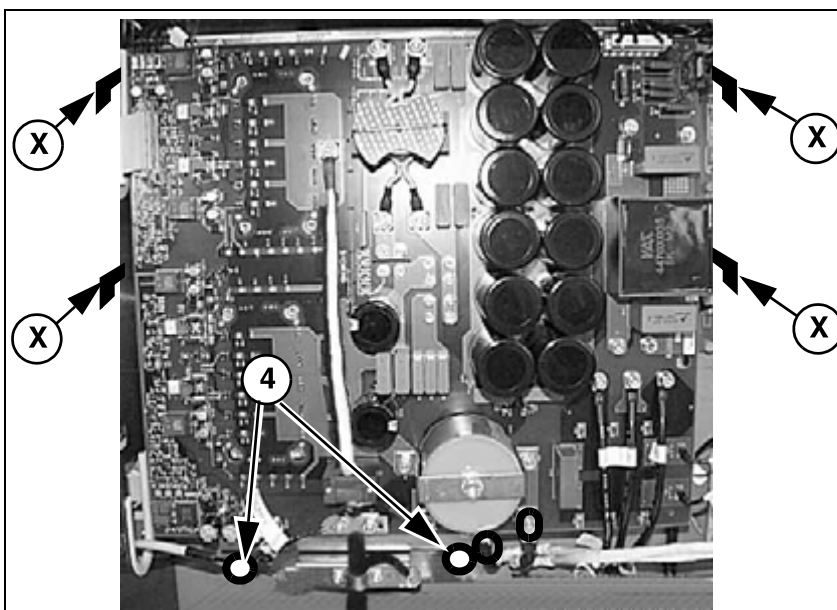

Fig. 14:
- Remove the two screws for the inverter support plate (4/Fig. 14 / p. 22).
- Slightly press up the complete inverter unit on the inverter support plate until the unit mounting brackets (X/Fig. 14 / p. 22) come away from the back wall of the generator cabinet, then remove the complete unit from the generator cabinet.
- Hook the new inverter unit onto the back wall (X/Fig. 14 / p. 22) and secure it in place.
- Insert the two screws for the inverter support plate (4/Fig. 14 / p. 22).